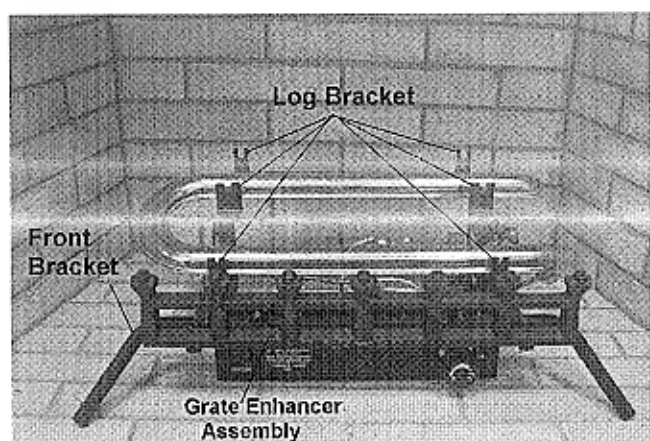

Figure 17-Installing Grate Enhancer Assembly
1. Attach the nick of the grate enhancer feet onto the front bracket, centering it from left to right (see Figure 17).